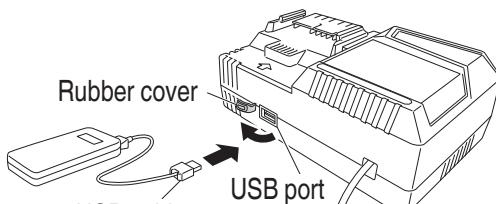

Fig. 15
(2) Connect the USB cable. (Fig. 15)